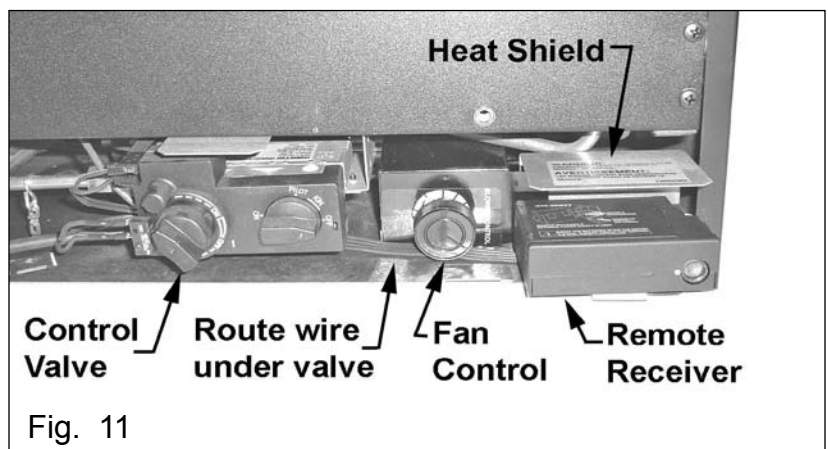

Fig. 11
- Place the Remote Receiver under the heat shield and run wiring to the valve as per instructions (see Fig. 11).